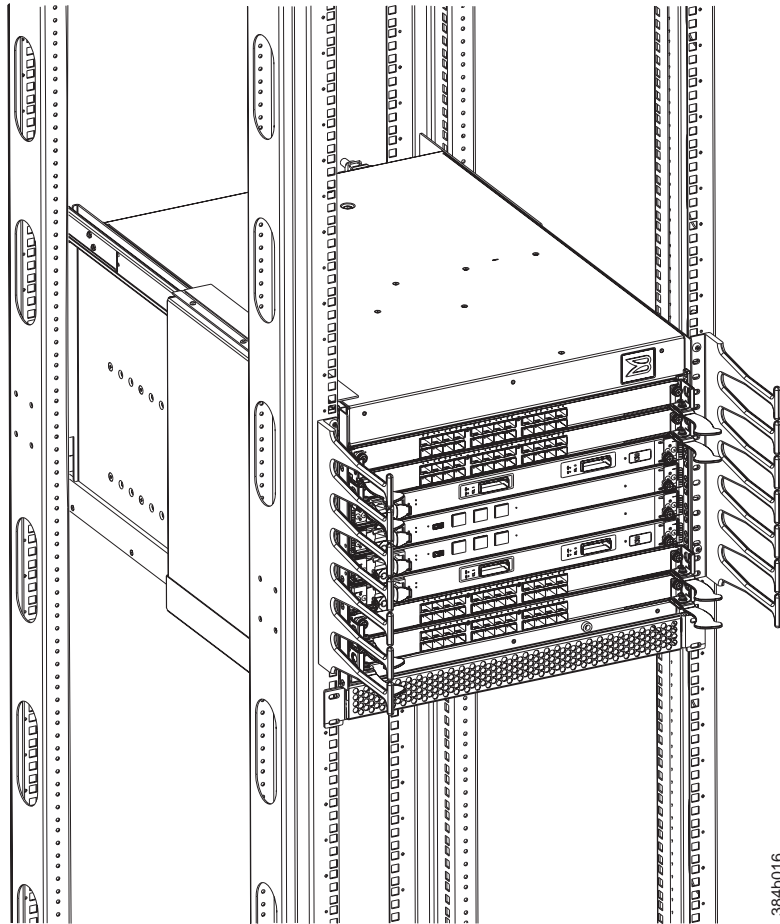

Figure 15. Attaching the vertical cable management finger assemblies to the cabinet rails
14. Attach the two cable management finger assemblies to the cabinet vertical rails, using two screws each. The two assemblies are identical and can be installed on either side. The screws will extend through the chassis flange used to attach the chassis to the cabinet rails, and into the clip nuts you have installed. Select the holes on the cable management assemblies that match two of the holes on the chassis flange. You will be able to position the cable management finger assemblies either towards the top of the chassis or towards the bottom of the chassis, depending on your requirements for routing cables. The third screw for each side is used to secure the chassis to the rails, directly through the chassis flange into the clip nuts. These screws do not attach the cable management assemblies to the chassis or rack. Figure 15 on page 28 shows the cable management fingers positioned towards the top of the chassis.